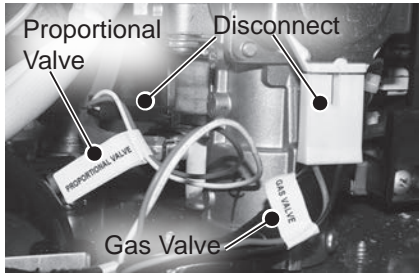

Figure 38 - Disconnecting gas valve and proportional valve
- 13 Locate the gas valve wiring harness and disconnect it. See Figure 38.
- 14 Locate the proportional valve wiring harness and disconnect it. See Figure 38.